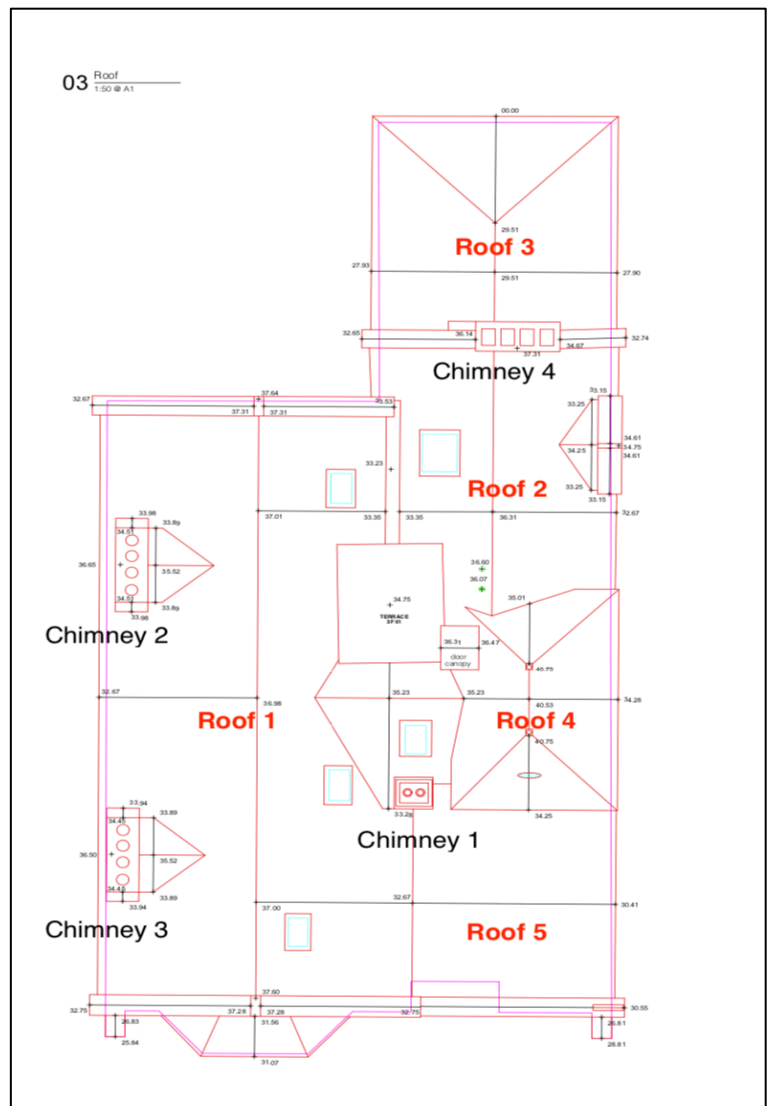

Figure 1: Existing roof configuration
1) Roof repairs (please see fig.1)